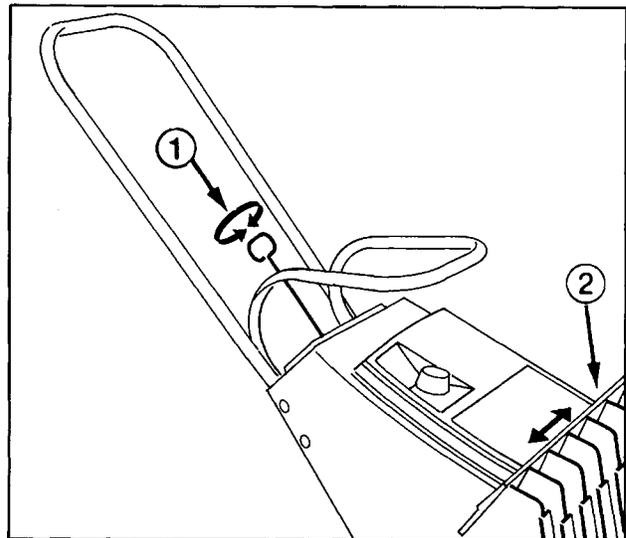

Fig. 5
1. ADJUSTING VANES (Fig. 5) — Keep vanes in vertical position for most efficient snow throwing. However, snow can be discharged left or right by simply rotating vane control. Store snowthrower with vanes in vertical position.